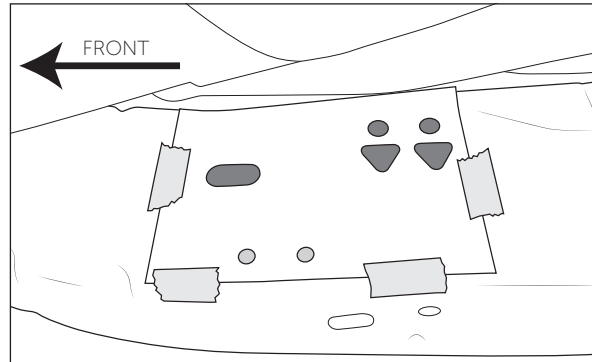

Figure 1: Tape template to inner frame rail
- B. Trim template and tape to the inboard side of the frame rail and drill two (2) 11mm holes (fig. 1).